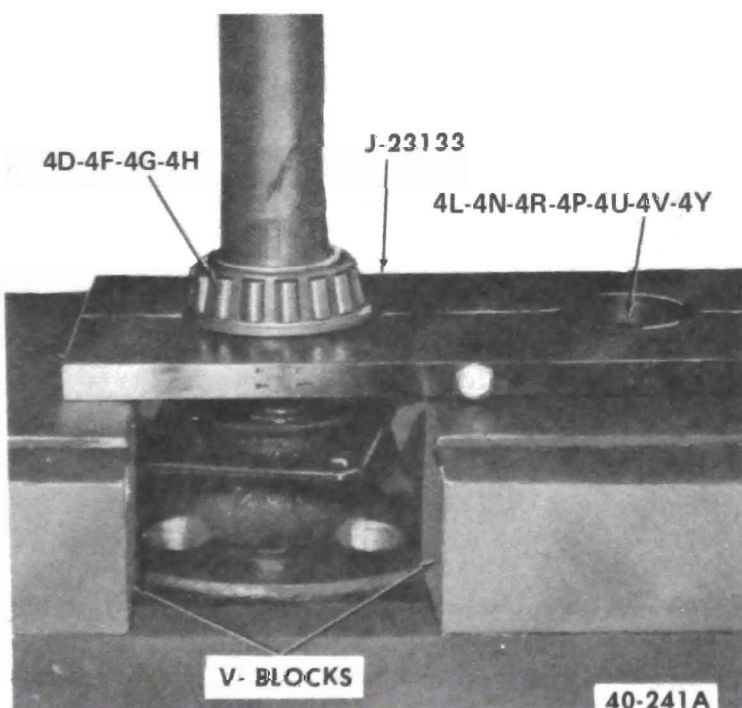

Figure 40-114 Removing Axle Shaft Bearing
2. Press axle shaft bearing off using Plate J-23133. See Figure 40-114.